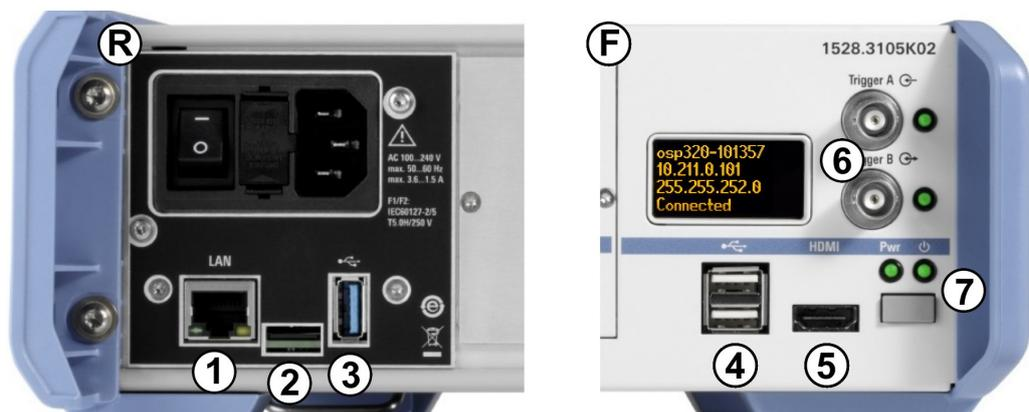

Figure 2-15: Connectors and functional elements on the switch unit's rear and front panel
R Int = Rear interfaces, see Figure 2-15, with an additional D-Sub 9 trigger connector
Alternatively, with any of the R&S OSP models, you can control your switch unit via an external mouse and keyboard, connected to the USB interfaces (see (4) in Figure 2-15). Optionally (especially without integrated touchscreen), you can connect an external monitor to the switch unit's HDMI interface (see (5)).
For connecting external devices, see Figure 2-15.
- As on the right-hand side in Figure 2-12, connect an external monitor to the HDMI connector on the unit's front panel (labeled (5) in Figure 2-15). Also connect a mouse and keyboard to the USB connectors, labeled (4).
- Connect the switch unit to a local area network (LAN) by the RJ45 connector on the unit's rear panel. The connector is labeled (1) in Figure 2-15. Read the unit's IP address from the status display and proceed as described in Chapter 2.3.1.2, "Manual Remote Operation", on page 28, or Chapter 2.3.1.3, "Remote Operation by SCPI Commands", on page 29.